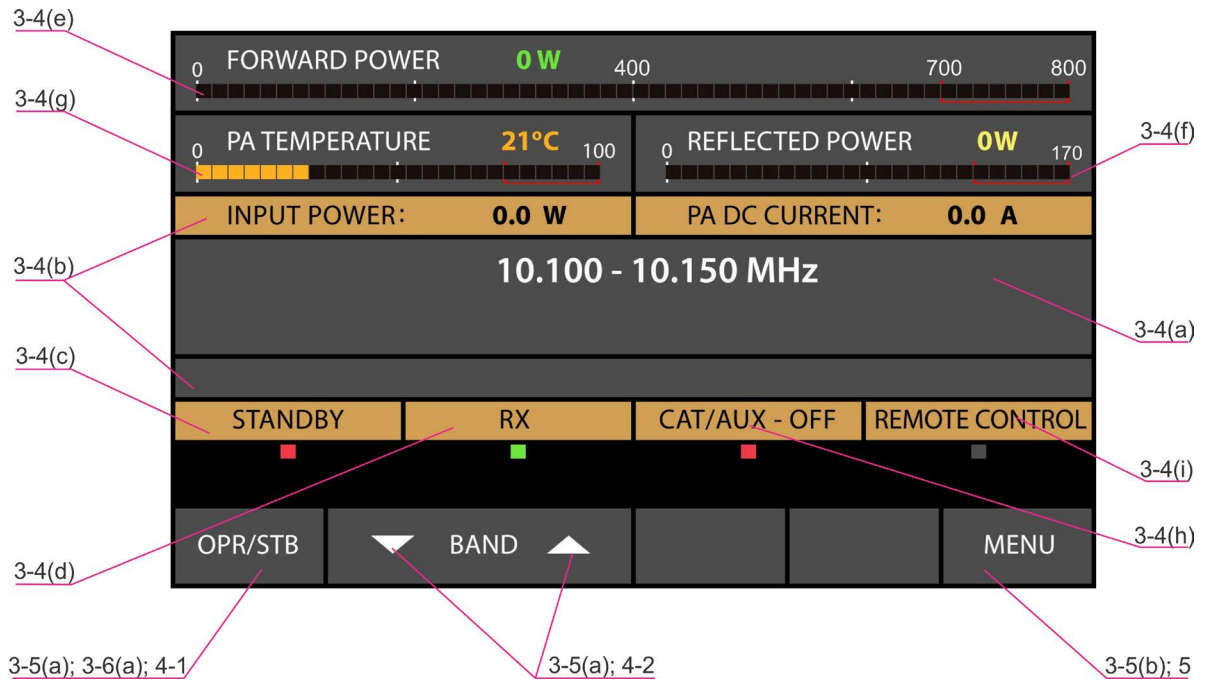

Fig. 3-2 Basic screen
In order to start up the amplifier, push and hold the POWER button on the front panel for one or two seconds - about ten seconds later (boot sequence) the display will flash and show the **basic screen** with the amplifier information - Fig. 3-2.
- a) The OPR/STB and the BAND buttons are used for manual (local) control of the (Fig. 3-2):
- b) The right-most button MENU (Fig. 3-2) provides access to the amplifier's settings and service functions;
Turn the amplifier on, as described in Sections 3-1 to 3-4 (Fig. 3-2).
- either manually (locally) – by pressing the OPR/STB button – see the basic screen in Fig. 3-2, or automatically – when if the AUTO OPERATE option is activated – see S. 5-4(c).